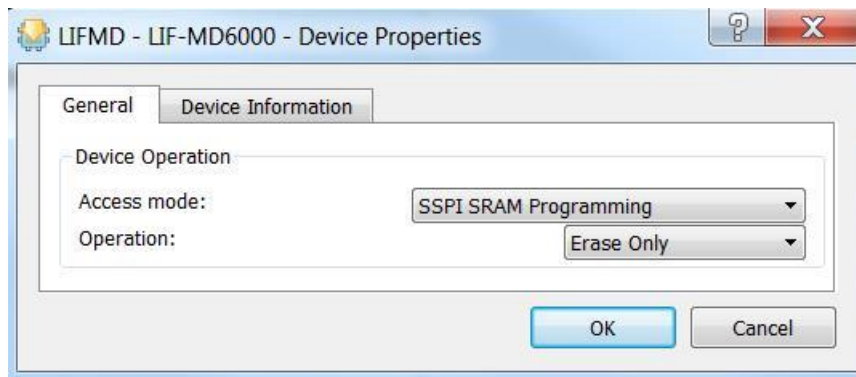

Figure 4.6. Device Operation
5. In the Device Properties dialog box, select **SSPI SRAM Programming** in Access mode and **Erase Only** in Operation as shown in Figure 4.6.